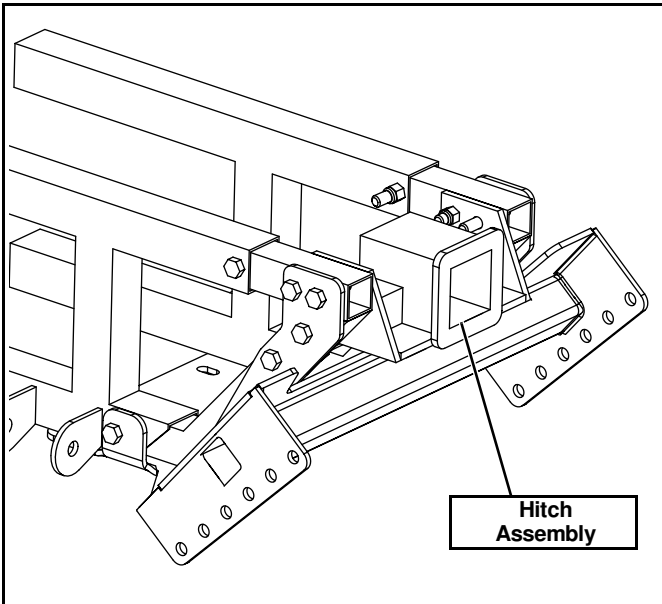

Figure 8
7. Hold Hitch Assembly in its original location. (See Figure 8.)
8. Secure the upper end of item #2 and the Hitch Assembly by reinstalling the hardware that was removed from step 1. (See Figure 8.)